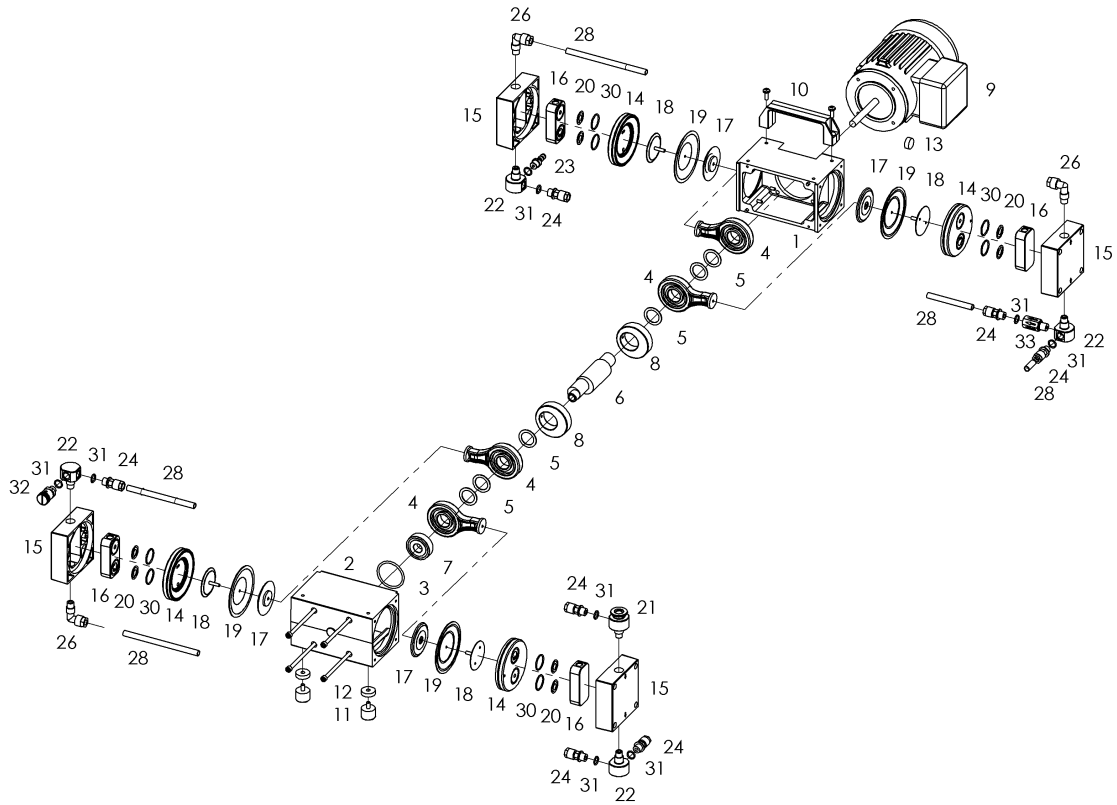

Fig. 5 Exploded view (2052C-02)
- Use the size 3 pin-type face wrench to tighten the pressure disc (8), the diaphragm (7) and the strain washer (6) with the correct torque of 5 - 6 Nm.
- Bring the connecting rod (see fig. 5) and the diaphragm (7) into the central position.
- Replace the pump head (5).
- Insert the valves (3) and the o-rings (4).